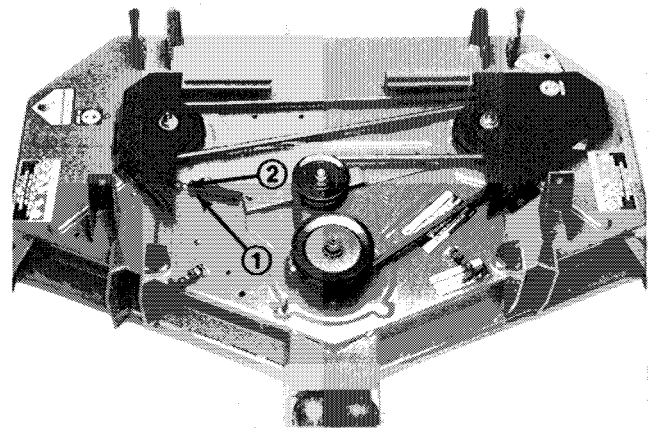

Figure 14
- A. Cutting units usually operated at 1 to 2 in. (25 to 51 mm) height-of-cut should have the low side of the cutting unit raised. Remove the klip ring securing castor wheel on low end (Fig. 14) and remove castor assembly.
- B. Transfer one thrust washer from top side of castor shaft to lower side, install castor assembly and compare blade height of all blades; refer to items 3 through 7. Continue adding thrust washers if height still does not meet requirements.
- D. Transfer one thrust washer from lower side of castor shaft to top side, install assembly and compare blade height of all blades; refer to items 3 through 7. Repeat procedure if height still does not meet requirements.
2. Remove nut securing spring anchor to capscrew in housing (Fig. 14). Lift anchor off capscrew and pull to increase belt tension. Correct belt tension is achieved when approximately 30-40 lbs. of force is applied to spring.